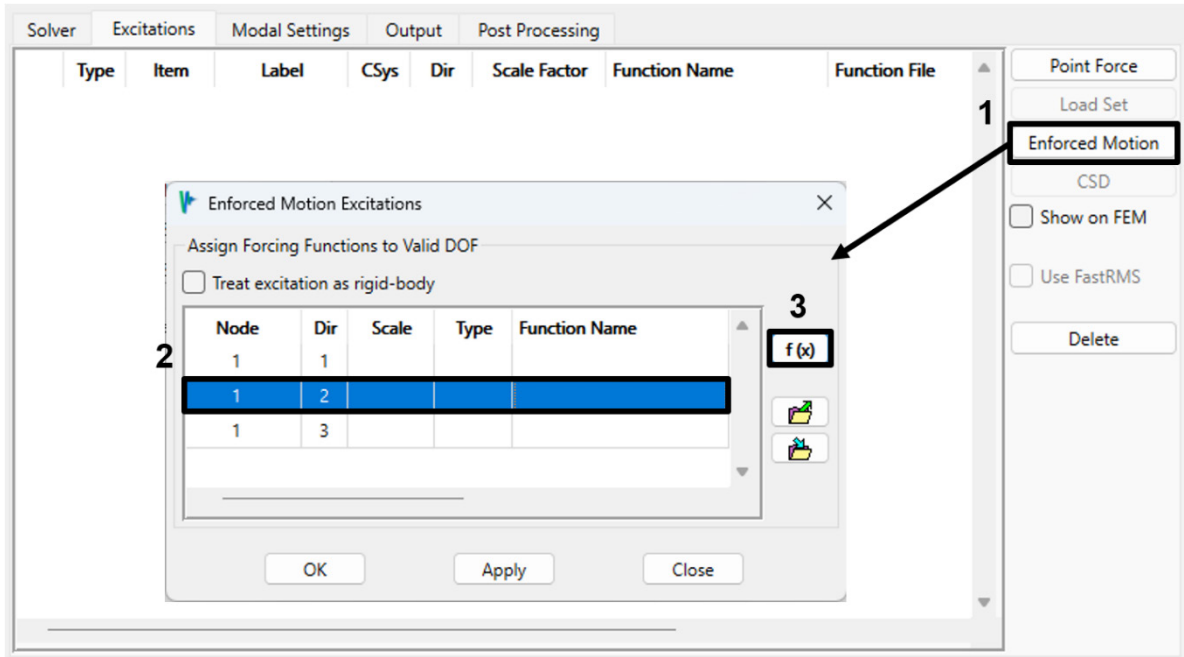

Figure 4-126. Apply the base excitation to the Y degree of freedom.
- Go to the *Excitations* tab and create a displacement enforced motion at the base node in the Y direction. Apply the excitation at node 1, DOF 2 (Figure 4-126).
- With the *Enforced Motion Excitations* dialog set per Figure 4-126, use the **f(x)** button to bring up the Function Manager. To create a sine-sweep function, you must